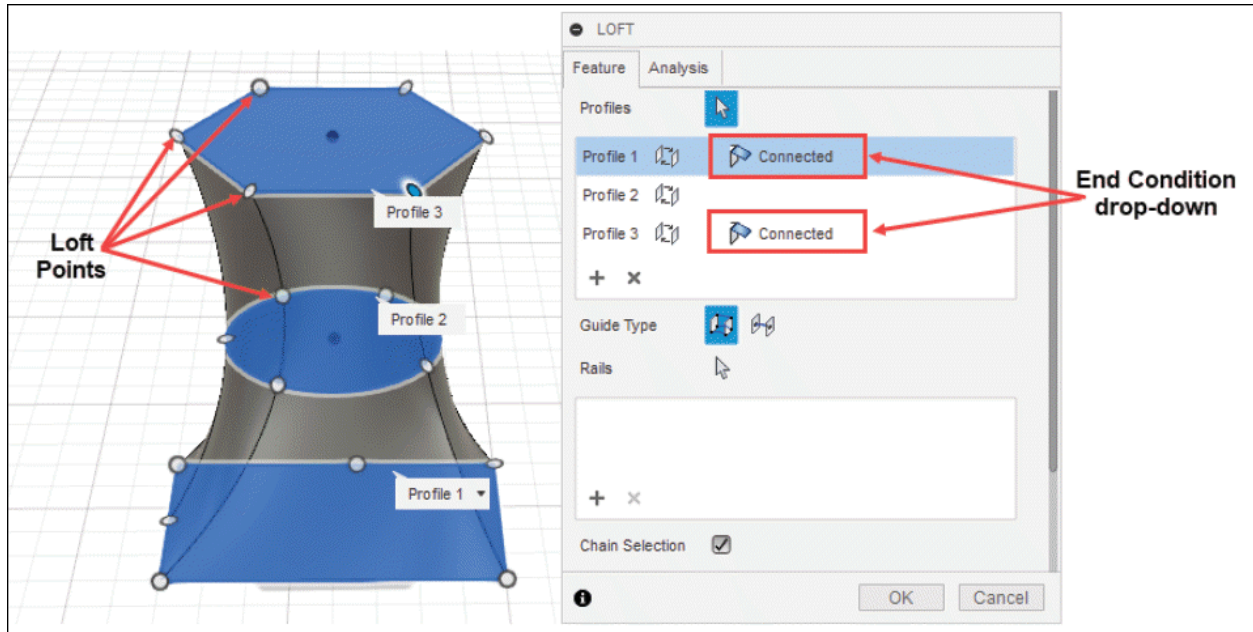

Figure-4. Preview of loft
- Click one by one on the sketches created at different planes. Note that you need to select the sketches in order by which they can be joined to each other successively. The preview of loft will be displayed; refer to Figure-4.